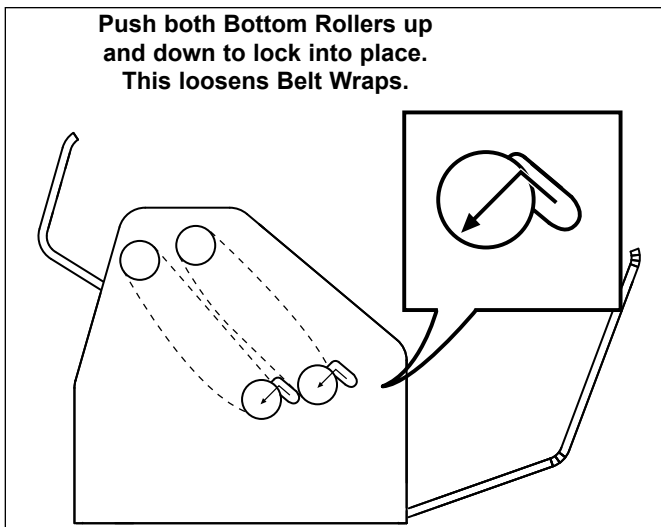

Figure 10. Loosening Belt Wraps
6. Refer to Figure 10. Push up and then drop down both of the Front and Rear Bottom Rollers until they lock into place. This will remove the tension on both Belt Wraps.
2. Ensure that both lower rollers are locked in the upper position (Figure 10).